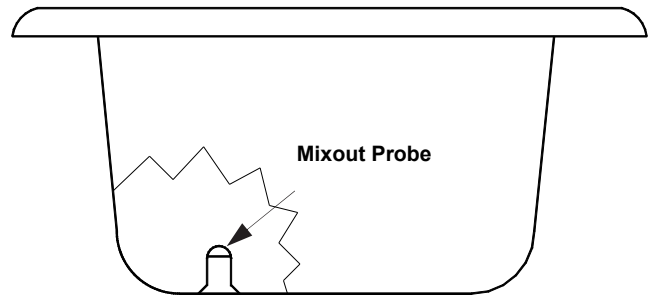

Fig. 25
4. Using a sanitary brush, wipe the solution onto the undersides of the mix pan lids, the sides of the mix pans, and over the mixout probes (Fig. 25).